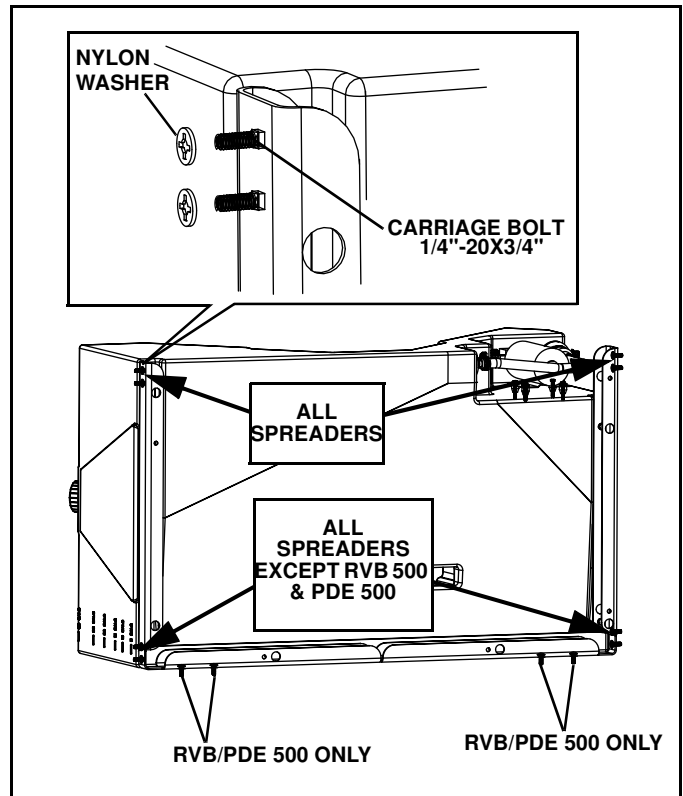

Figure 1-2
2. Tip the tank on its front so the bottom is facing you. (See Figure 1-2)
3. Insert the 1/4"-20 x 3/4" carriage bolts through the mount holes for your spreader. Slide the self-retaining nylon washers all the way over the threaded end of the carriage bolts. (See Figure 1-2)